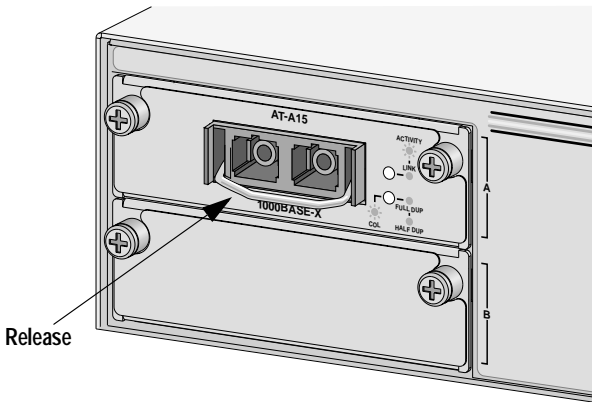

Figure 8 AT-GBIC Module
2. Remove the GBIC module from the AT-A15 (SX or LX) expansion module by pulling up the release wire and sliding the module out of the expansion slot. Refer to Figure 8.